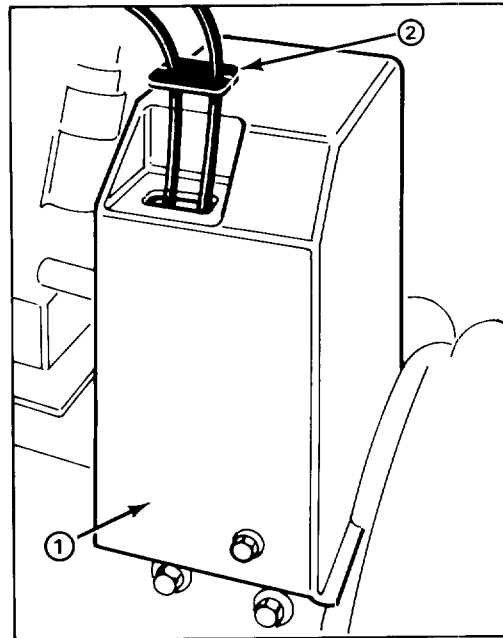

Figure 3
8. Mount upper belt cover to engine frame with (3) 1/4-20×1/2" lg. flange head capscrews (Fig. 3).